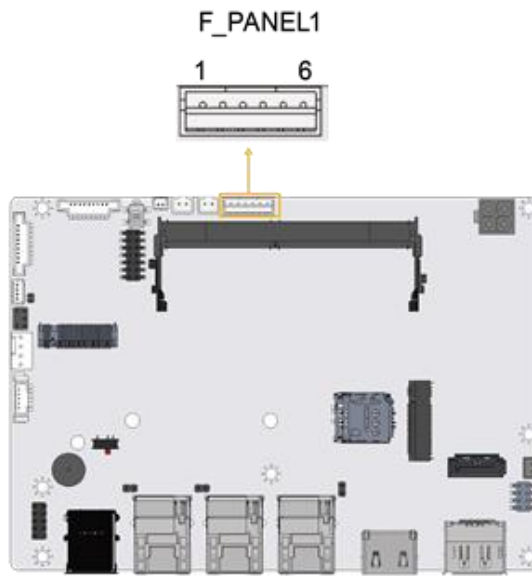

Figure 4-4: Power LED & HDD LED Connector Location
- CN Location:** See **Figure 4-4**